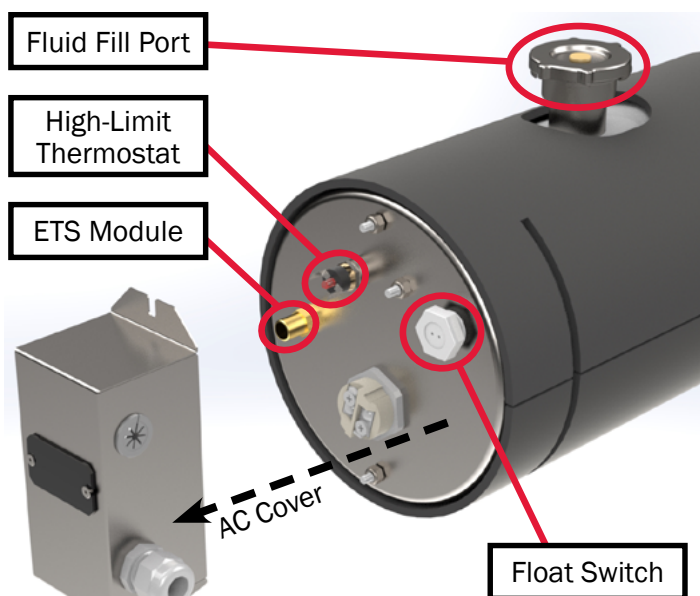

Figure 17
7. Locate the high-limit thermostat within the Aqua-Hot (see Figure 17). Test the thermostat for functionality, and replace if necessary.
8. Locate and test the ETS module (Figure 17) for functionality. Replace if necessary.